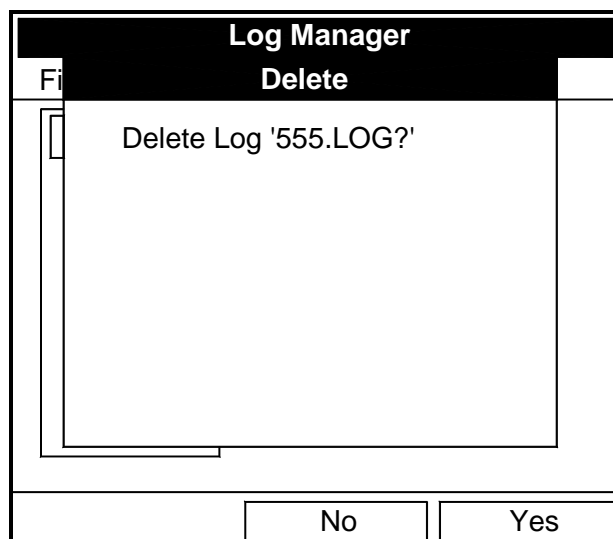

Figure 5-9: Delete Confirmation Window
3. A delete confirmation window opens, as shown in Figure 5-9 below. Press [F2] (No) to stop the deletion, or [F3] (Yes) to delete the log.